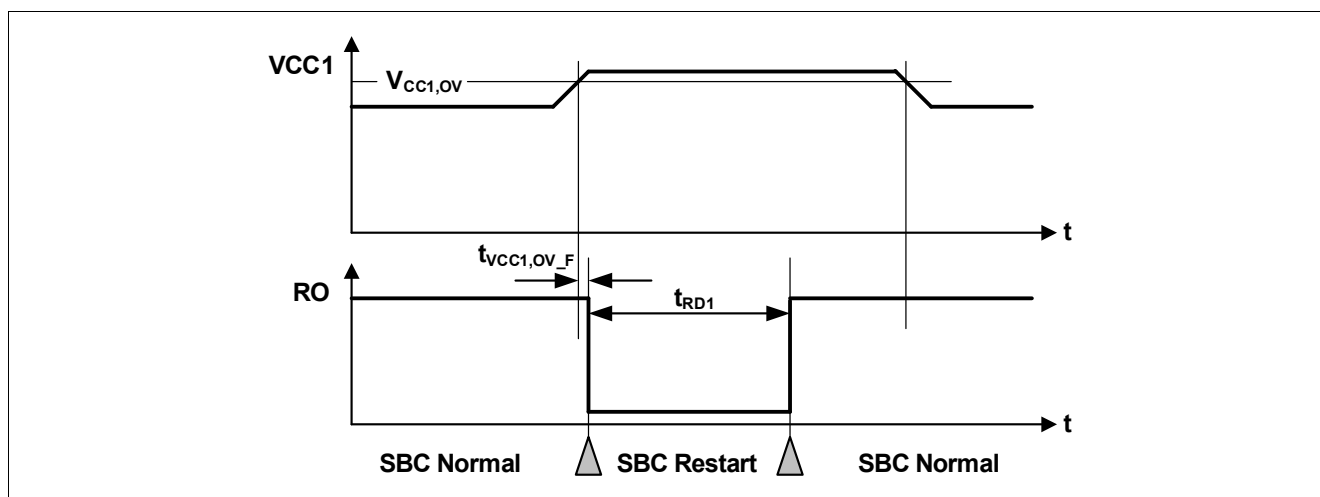

Figure 58 VCC1 Overvoltage Timing Diagram
- If the bit **VCC1_OV_RST** is set and **CFGP** = '1', then SBC Restart Mode is entered. The FOx outputs are activated. After the reset delay time (t_{RD1}), the SBC Restart Mode is left and SBC Normal Mode is resumed even if the VCC1 overvoltage event is still present (see also **Figure 58**). The **VCC1_OV_RST** bit is cleared automatically;